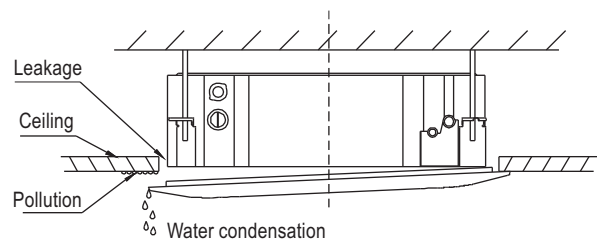

Fig.1-12
- Malfunction described in Fig.1-12 can be caused by inappropriate tightness the screw.